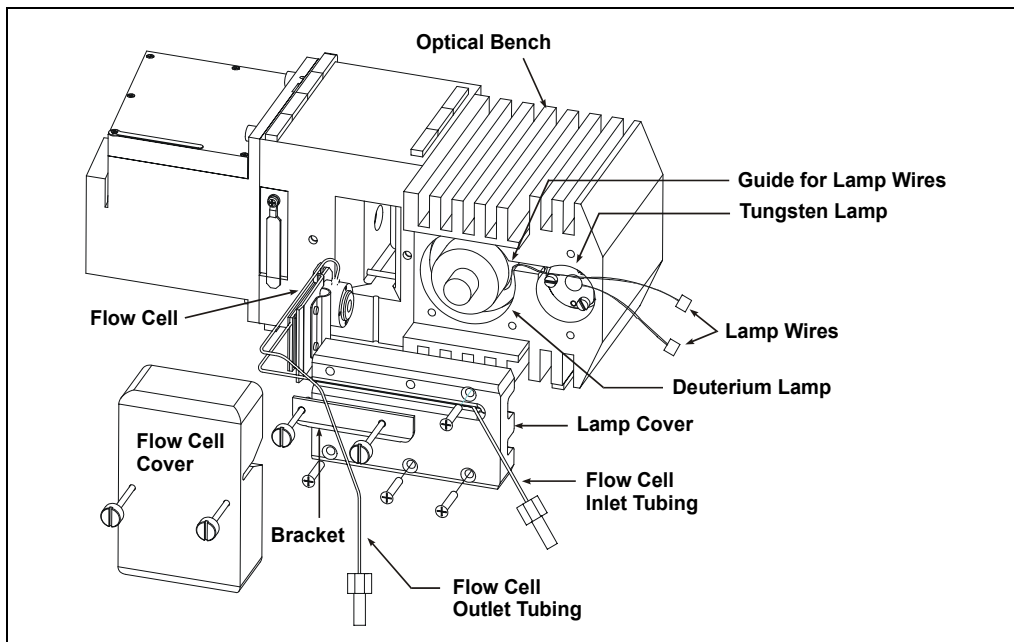

Figure 5-1. Removing the Flow Cell
2. Disconnect the tubing connected to the flow cell inlet and outlet (see Figure 5-1).
3. Thread the flow cell inlet tubing through the tubing guide on the lamp cover and reinstall the tubing bracket (see Figure 5-1).
4. Remove the tubing bracket from the lamp cover (see Figure 5-1).
5. Remove the flow cell inlet tubing from the tubing guide in the lamp cover (see Figure 5-1).
6. Remove the flow cell cover from the inside front panel (see Figure 5-1).